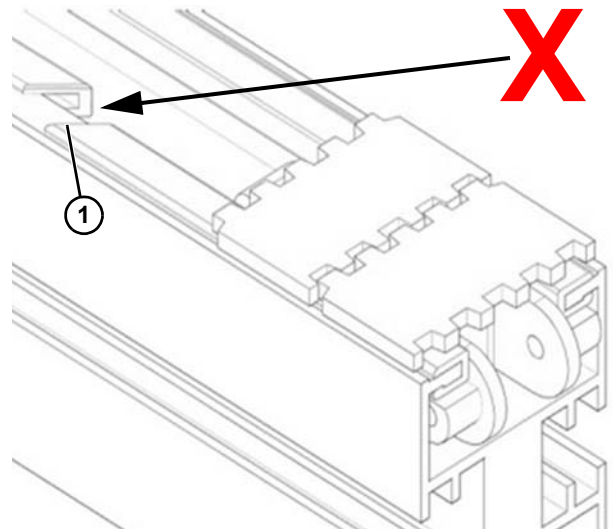

Figure 115
- Check that the gap (**Figure 115, item 1**) between the slide rails and that the joints fit correctly.